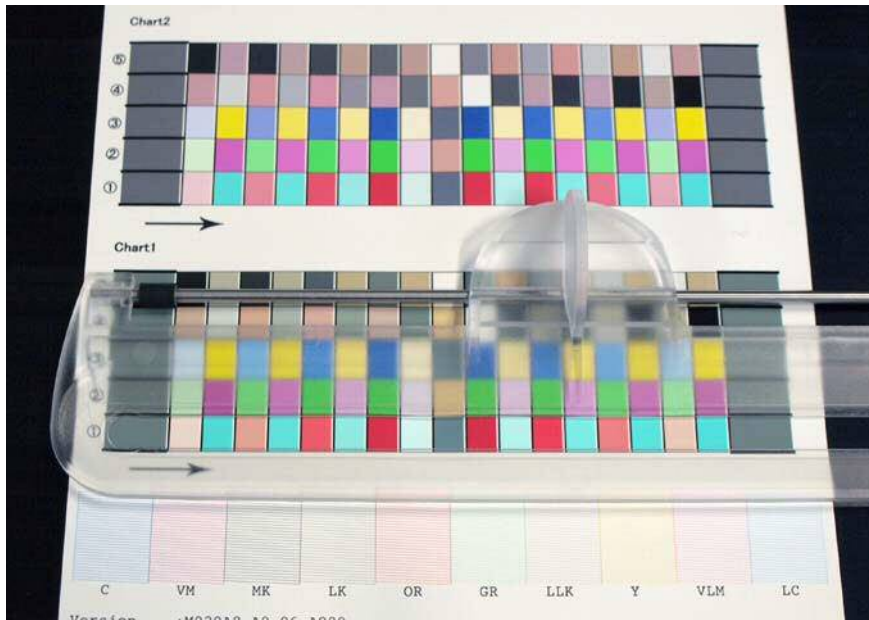

Figure 5-52. Setting the Chart and the Scanning Ruler
27. Refer to Figure 5-52, lay the chart on the black paper (or sheet) with the upper part of the chart facing left side, and set the scanning ruler onto the bottommost patch line.